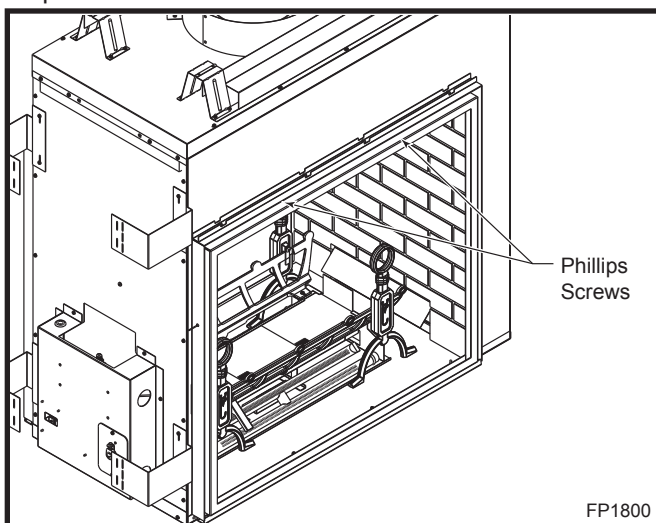

Fig. 39 Remove Phillips screws, tilt frame forward and lift off bottom door track.
3. Using a Phillips screwdriver, unfasten two (2) screws located at the top of the glass frame. (Fig. 39)